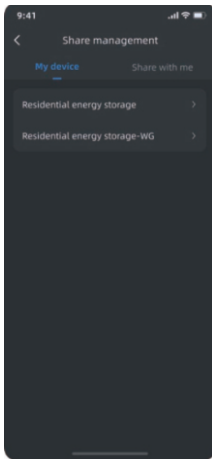

Figure 1
- 1)Figure 1: Display the bound devices, select the device to enter the "Device Sharing" page.